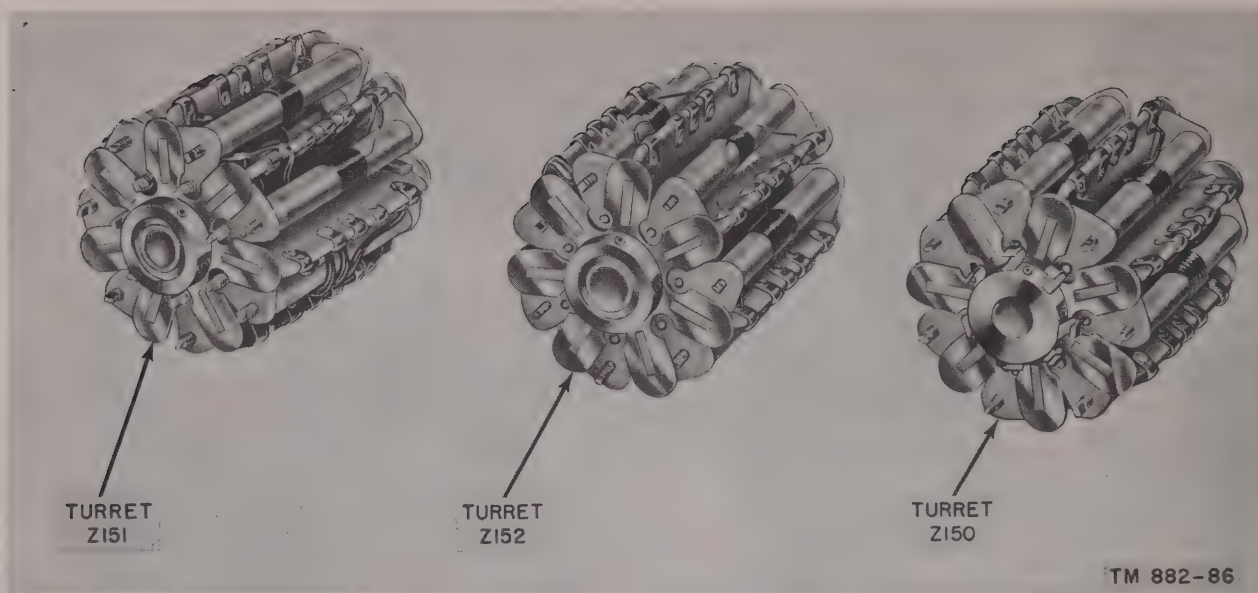

Figure 107. Radio Receiver R-220/URR, turrets, Z150, Z151, and Z152.
b. Removal of Turrets (figs. 107 and 108). Each turret is fastened to its shaft by two Bristo setscrews. To remove any one of the seven turrets, proceed as follows:
- (1) Loosen the two setscrews with a Bristo wrench. Do not remove the setscrews from the holes. The turret will now be free to rotate on the shaft.
- (2) Rotate the turret so that the contacts on the turret coil assemblies do not touch the wiper contacts on the frame.
- (3) Remove the turret by pulling it forward off the shaft.